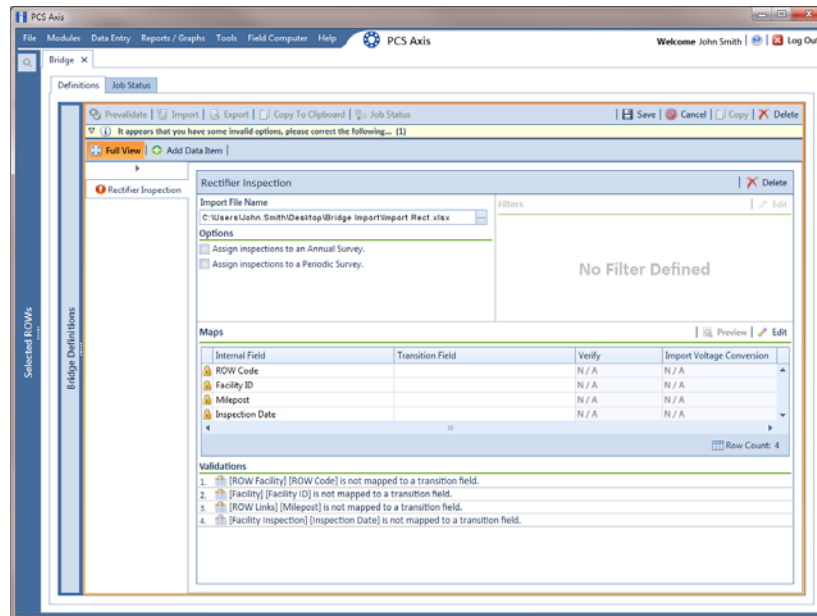

Figure 10-8. Definition
- 9 Identify the location of the import file using the following steps (Figure 10-8, page 463):
- 10** To assign inspections to a survey folder based on the inspection date, complete one or both of the following steps in the *Options* group box as required (Figure 10-8, page 463):